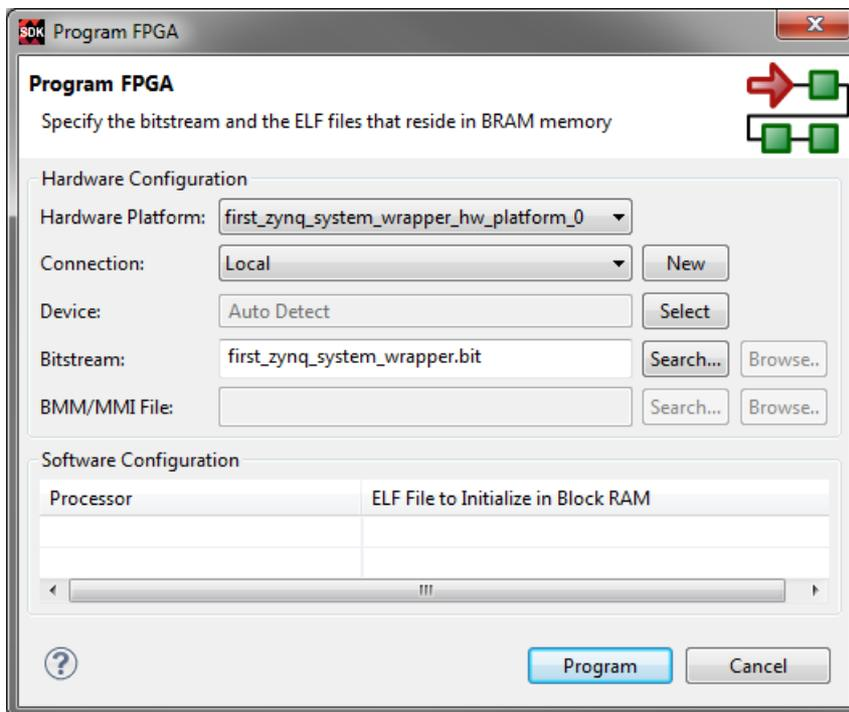

Figure 1.36: Program FPGA dialogue Window
- (j) Download the bitstream to the Zynq PL by selecting **Xilinx Tools > Program FPGA** from the *Menu bar*. The *Program FPGA* window will appear. The Bitstream field should already be populated with the correct bitstream file, as in Figure 1.36.